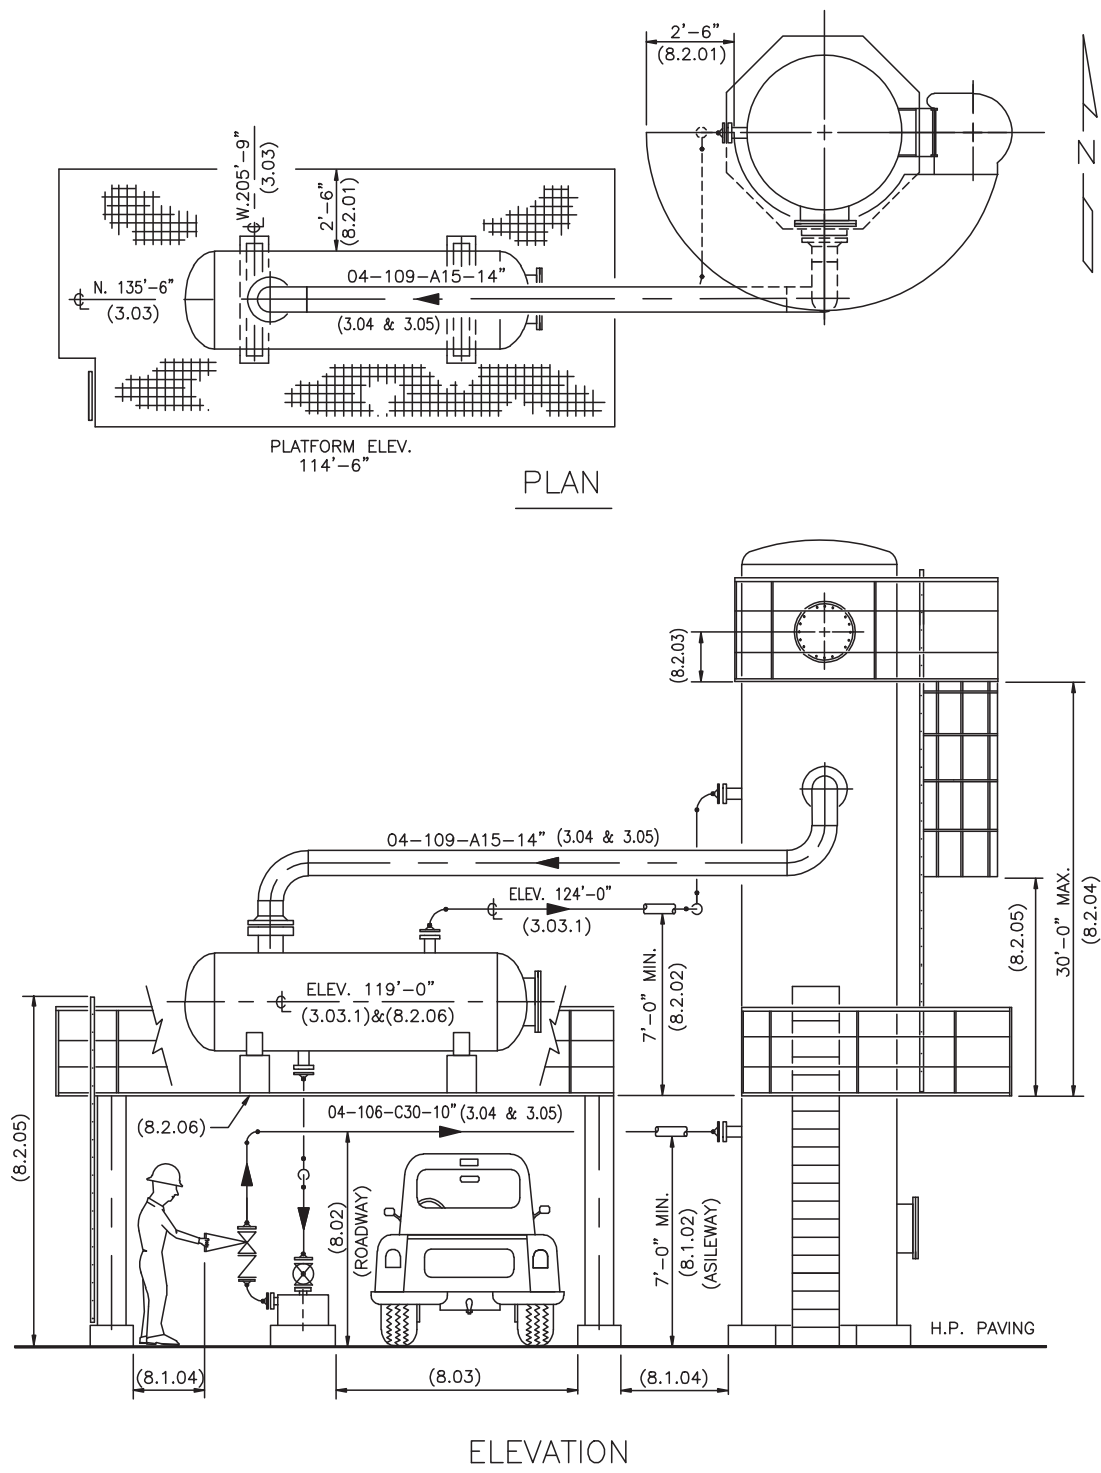

FIGURE 8.2 Application of engineering specifications.
***An example of how Clearance and Spacing specifications are applied to piping drawings is represented in Figure 8.2.***
***An example of how engineering specifications are applied to piping drawings is presented in Figure 8.2.***